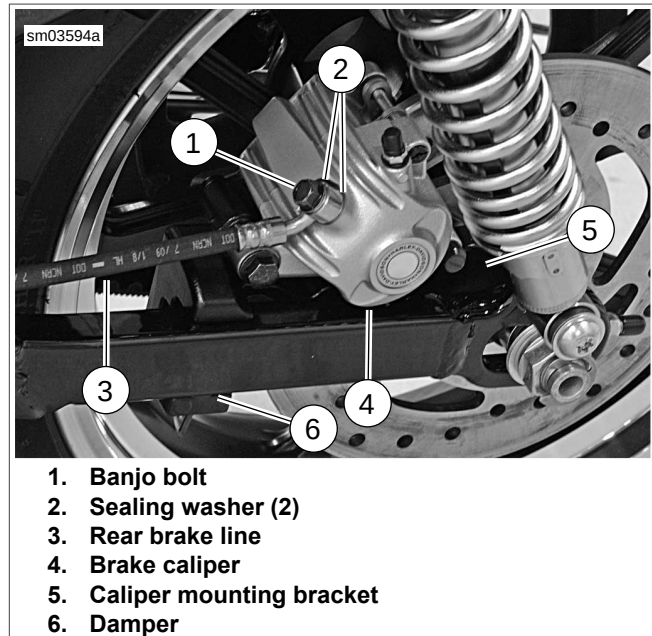

Figure 2-110. Rear Caliper Assembly
- See Figure 2-110. Position a **new** washer (2) on each side of hydraulic brake line (3) banjo fitting. Insert banjo bolt (1) through washers and fitting. Thread bolt into caliper housing. Tighten to 20-25 ft-lbs (27.1-33.9 Nm).